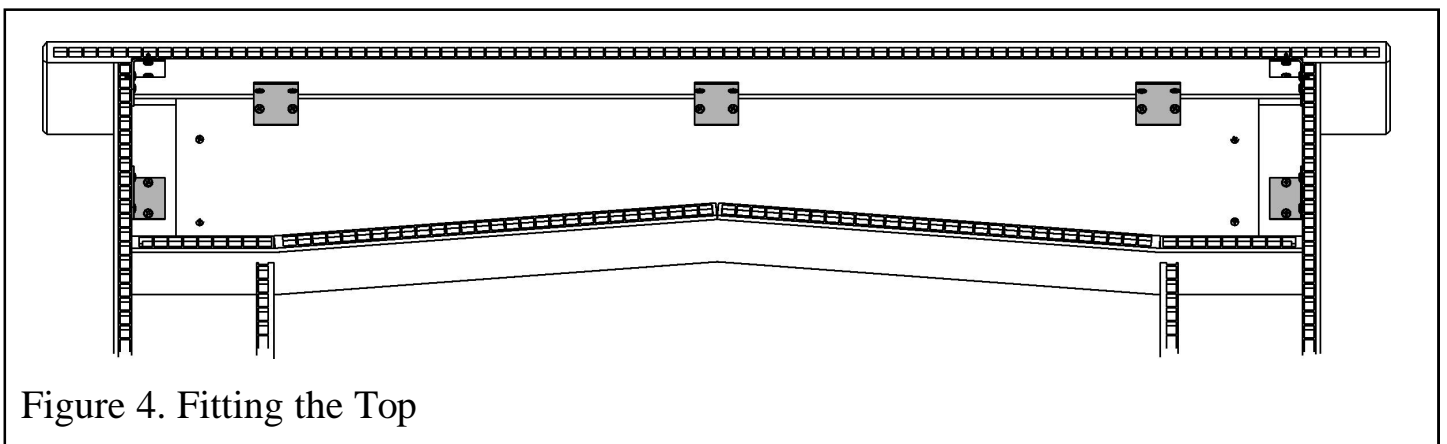

Figure 4. Fitting the Top
Lift the surround / mantle and stand upright. Support the surround / mantle to prevent it falling. There are pilot holes in the top of the legs and cross member. Locate the top as in figure 4 so the holes in the brackets are in line with those of the pilot holes in the surround / mantle and secure in place using ten screws (F).